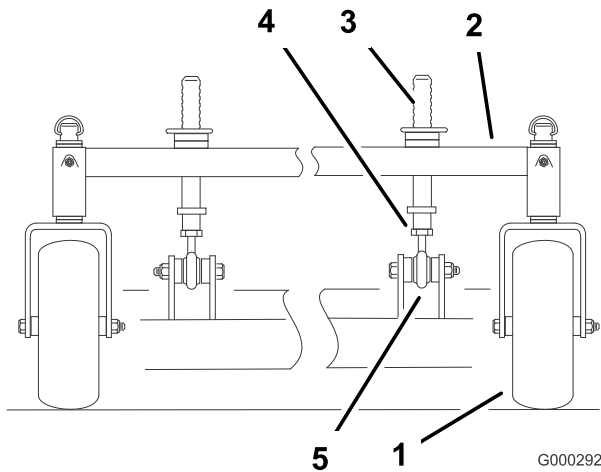

Figure 72
1. To change the front-to-rear pitch, the front height-of-cut posts can be adjusted (Figure 72).
2. To raise the front of the deck, loosen the jam nut and rotate the front pin clockwise (Figure 72).
3. To lower the front of the deck, loosen the jam nut and rotate the front pin counterclockwise (Figure 72).
7. Tighten the jam nuts (Figure 72).